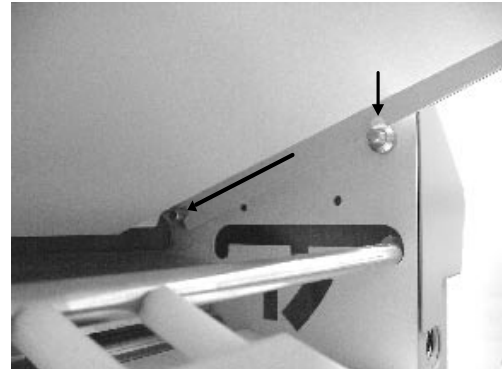
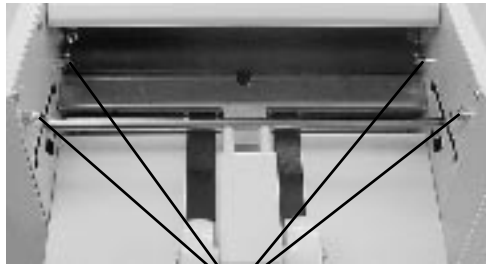

Fig. 2
Fig. 1a
1. Install upper and lower fold plates in position. Be sure the plates are set firmly on the locating pins (Fig 1a & 1b). Slide the fold plate in until it meets the first locating pin then push down to lock it in position (Fig. 2).